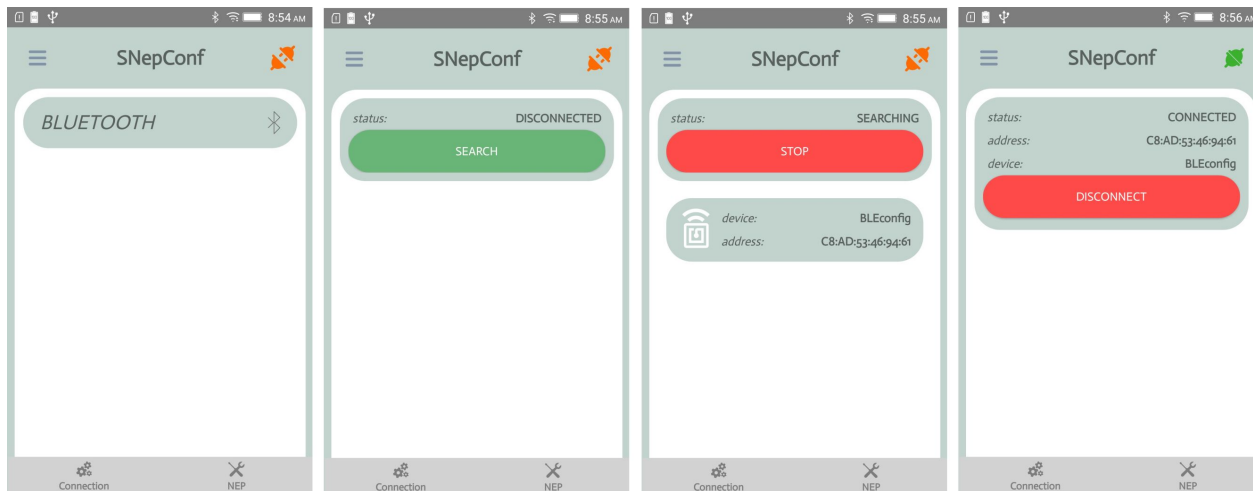

Figure 11: Bluetooth pairing of smartphone with „BT-IRDA” converter
- tap to „**BLUETOOTH**” button on the initial screen (see figure 11 very left);
- tap to „**SEARCH**” button on the next screen (see figure 11 second from left);
- „**BT-IRDA**” converter will display as „**BLEconfig**” type of device (see figure 11 third from left);
- tap to „**BLEconfig**” tile for connecting (pairing) of both devices (phone and converter) (see figure 11 very right);